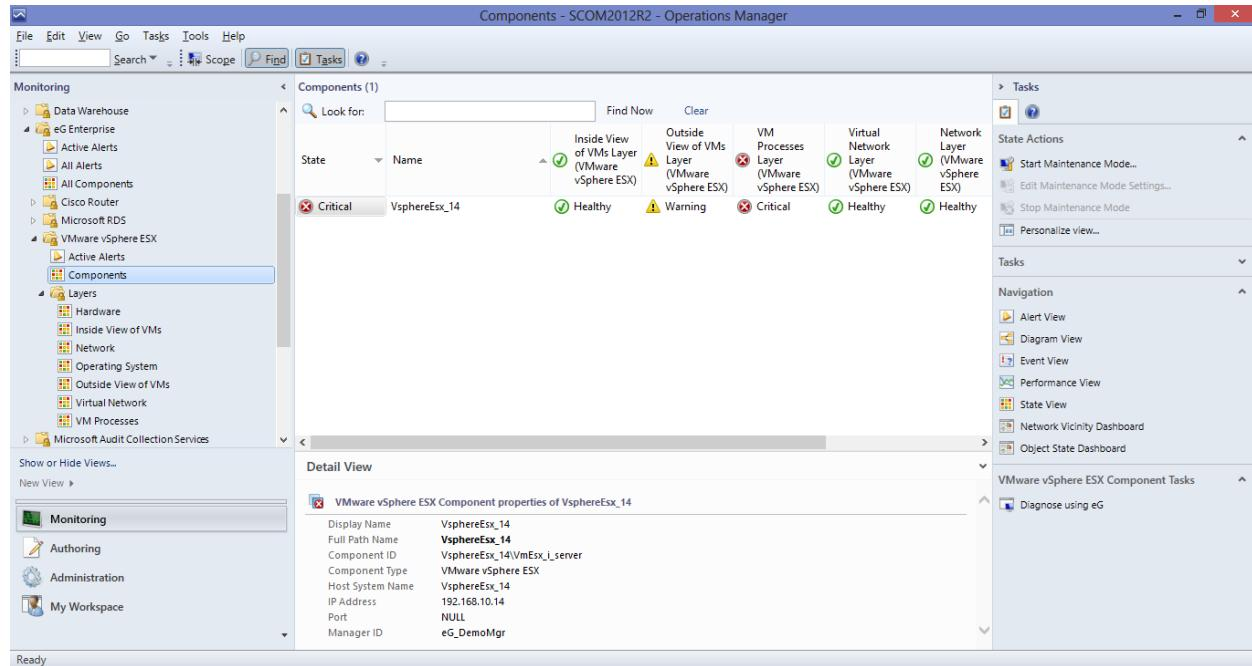

Figure 3.16: Viewing the managed components of type VMware vSphere ESX and their current state
4. Next, if you want to know which components of type **VMware vSphere ESX** are currently managed and what their current states are, click on the **Components** sub-node under the **VMware vSphere ESX** node. You will then view the complete list of managed VMware vSphere components and their current states in the right panel (see Figure 3.16).